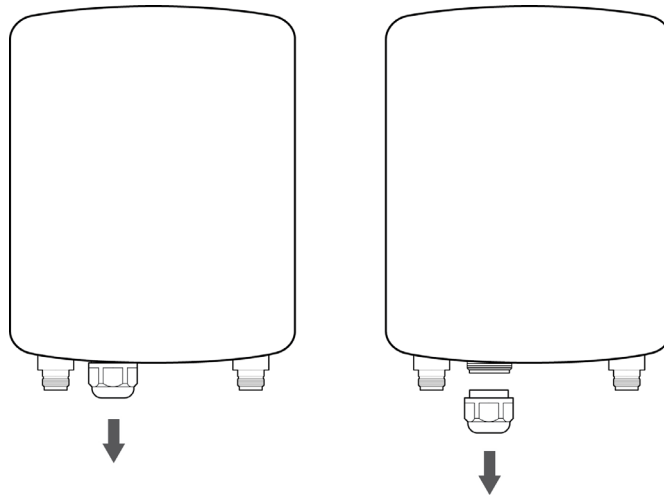

Figure 5. Removing the Sealing Nut, Clamping Claw, and Sealing Insert
1. Unscrew the sealing nut at the LAN port on the access point and remove the clamping claw and sealing insert. See Figure 5.